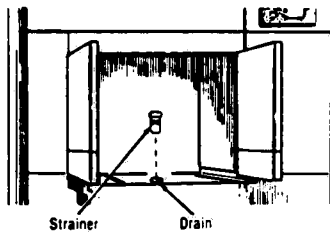

Figure 4-1.
1. Clean out the chamber drain (see Figure 4-1).